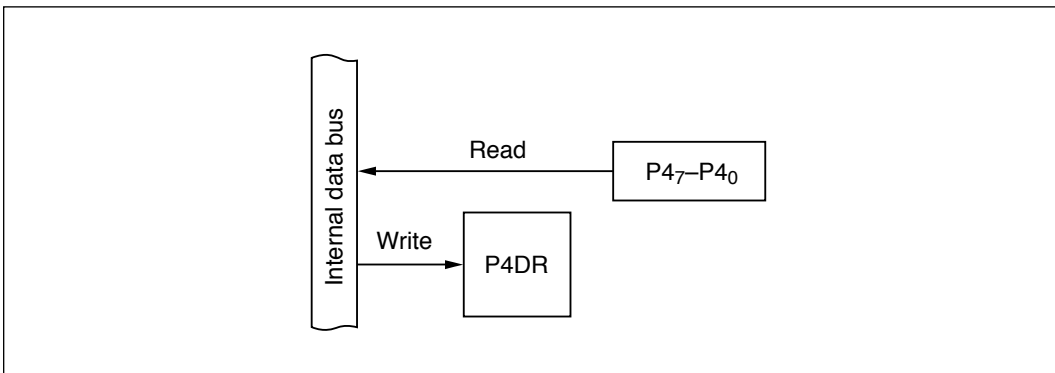

Figure 9-22 Input Port (Modes 1 to 7)
(1) Input Port (Modes 1 to 7): Figure 9-22 shows a block diagram illustrating the general-purpose input function. Table 9-15 indicates register read/write data. Values written in the port 4 data register (P4DR) have no effect on general-purpose input lines. When read, P4DR returns the value at the pin.